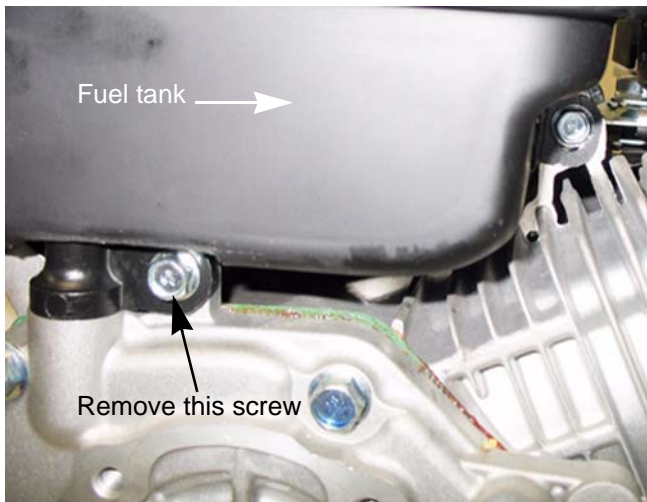

Figure 5.5
3. Remove the screw at the bottom of the dip stick tube. See Figure 5.5.